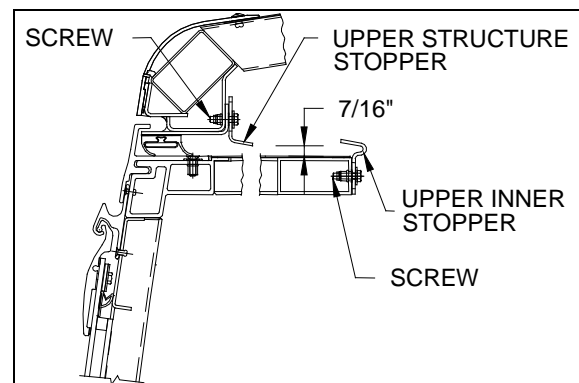
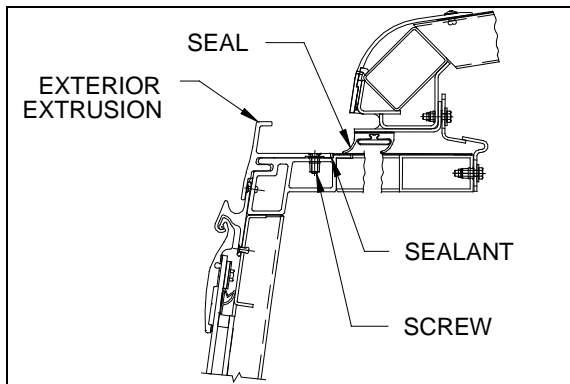

FIGURE 5 : UPPER STOPPERS
FIGURE 6 : EXTERIOR EXTRUSION
2. Adjust the upper structure stopper at 1/4" from the slide-out structure and tighten the screws (figure 5).
slide-out is extended (figure 6), and tighten the screws.
the inner side of the extrusion. This is to hold back the roof structure (figure 5 and figure 6).
6. Unscrew and remove the slide-out inner upper and side stoppers. Loosen the upper structure stopper retaining screws and move this stopper to the upward position to allow the slide-out to come out freely (figure 5).